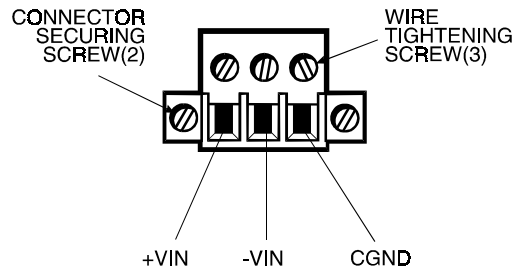

Figure 3-17. DC Power Connector
4. Insert the three wire ends of the power cable into the three holes of the block plug. Insert the Protective Earth GND ground, + (positive), and - (return) wires into the corresponding holes, as shown in Figure 3-17. Be sure that no bare wires are exposed.